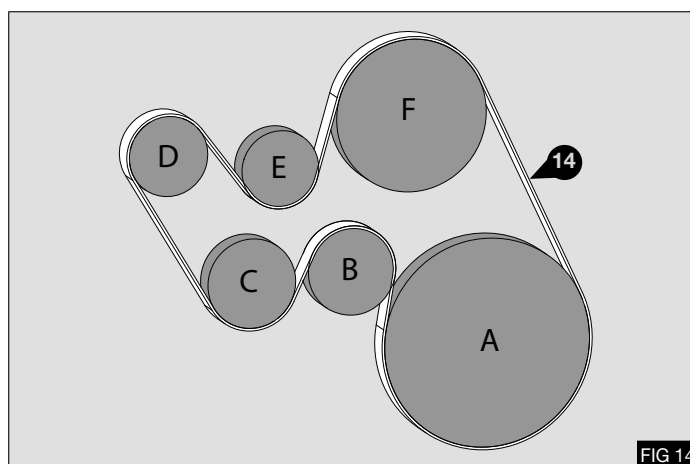

FIG 14
18. Fit the supplied drive belt **(14)**, and remove locking pin from auto tensioner **(A)** - Fig 14